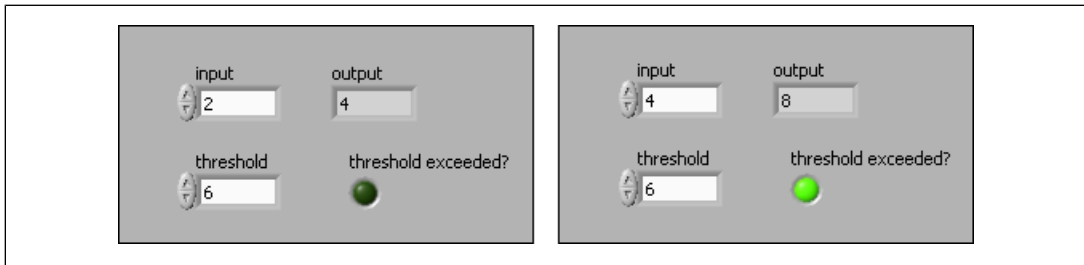

Figure 5. LED Lights when Output Exceeds Threshold
- Enter different values in the **input** numeric control. In Figure 5, the **output** value on the left does not exceed the **threshold** value. If you change the **input** value so that the **output** value is greater than the **threshold** value, the **threshold exceeded?** LED lights.